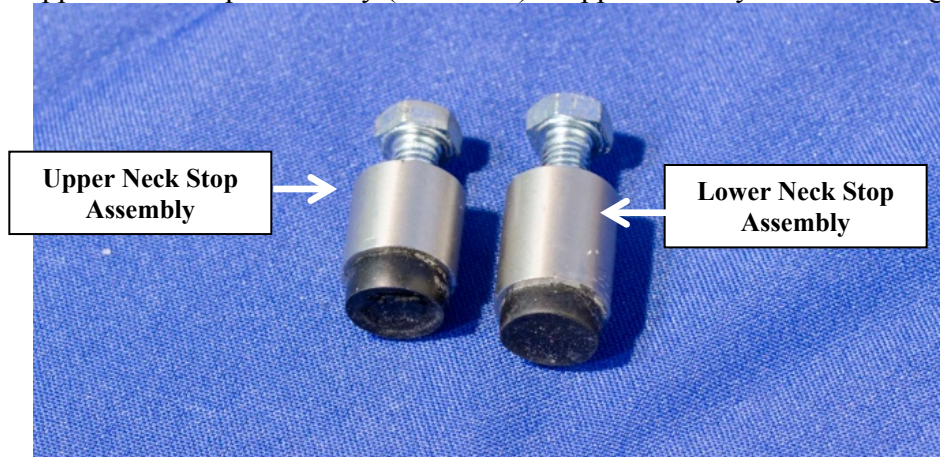

Figure 4-24. Upper and lower neck stop assemblies
4.2.2.13 There are two neck stop assemblies in the THOR-50M neck (Figure 4-24). The Lower Neck Stop Assembly (472-2520) is approximately 17 mm long and the Upper Neck Stop Assembly (472-2500) is approximately 14 mm in length.